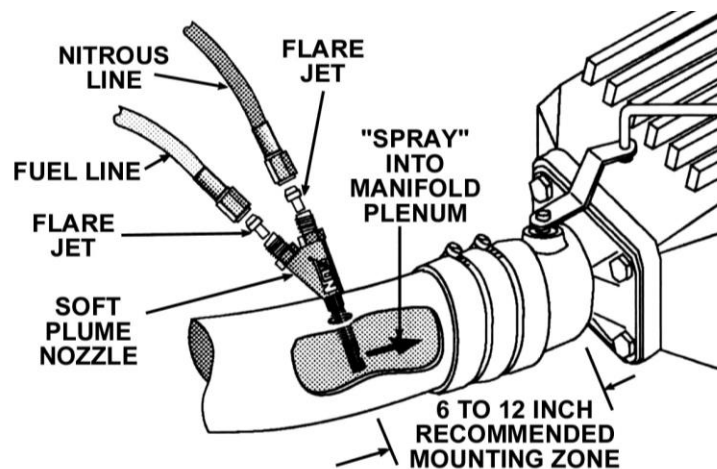

Figure 5 Soft Plume Nozzle Installation Cut-Away
**NOTE:** The recommended mounting location for the Soft Plume nozzle is in the air inlet duct, between the throttle body and the mass airflow sensor (in applications where a mass airflow sensor is used). In certain applications where the throttle body is an integrate part of the air cleaner housing, install the nozzle between the throttle body and the intake manifold. If possible, install the nozzle between 6 and 12 inches before the throttle body or any major turn in the air inlet duct. See Figure 5. If your vehicle does not facilitate the above installation requirements, call the NOS technical department to determine compatibility before continuing installation.